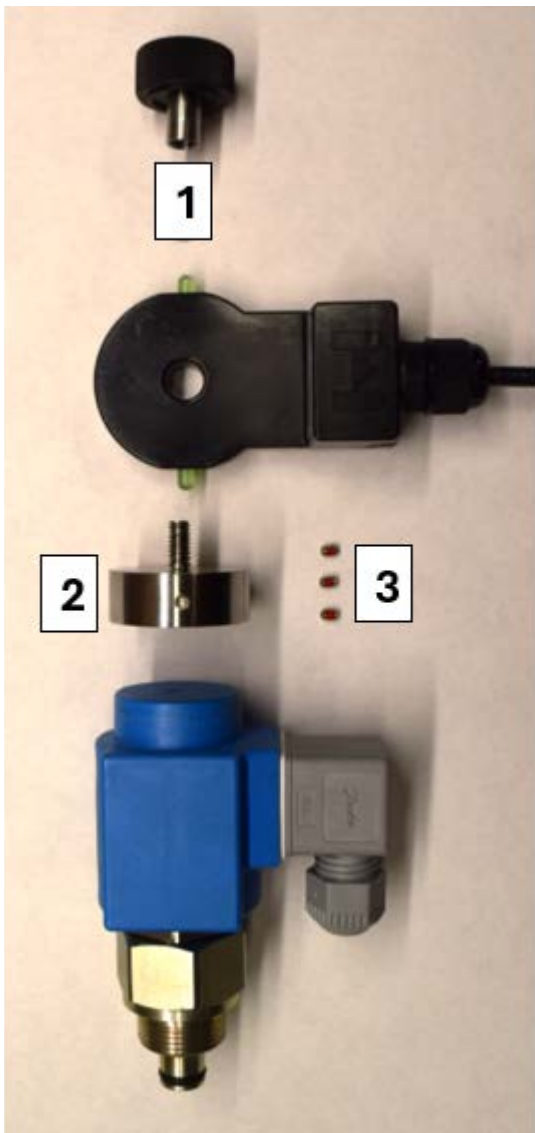

Figure 16
- Danfoss Coils - See Alternate Coils Figure 16